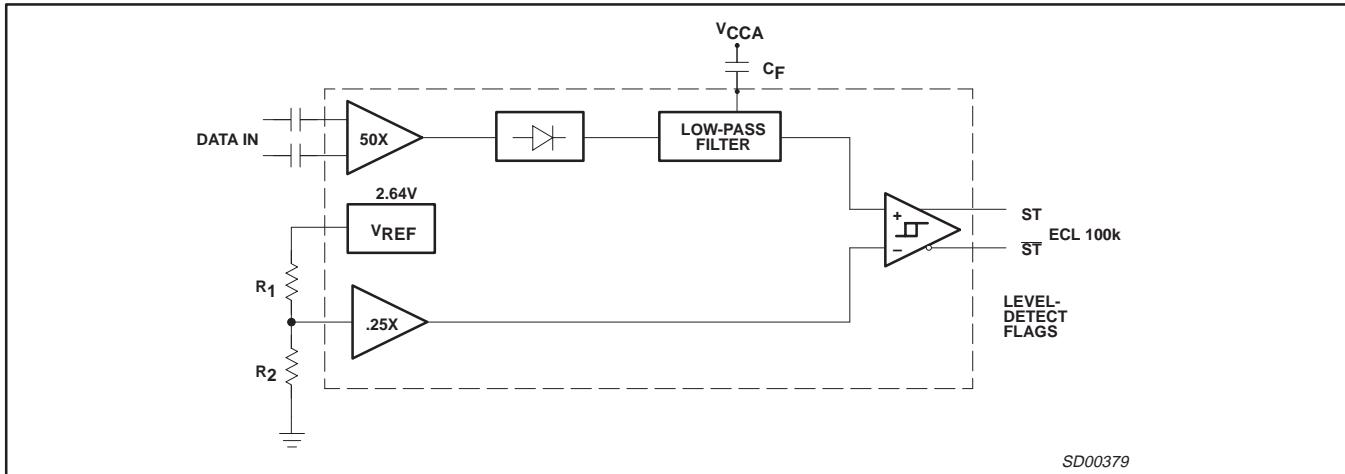

Figure 6. SA5224 Input Signal Level-Detect System
Figure 6 shows a simplified block diagram of the SA5224 level-detect system. The input signal is amplified and rectified before being compared to a programmable reference. A filter is included to prevent noise spikes from triggering the level-detector. This filter has a nominal 1 μ s time constant, and additional filtering can be achieved by using an external capacitor (CF) from Pin 7 to V_{CCA} (the internal driving impedance is nominally 24k). The resultant signal is then compared to a programmable level, V_{SET} , which is set by an internal voltage reference (2.64V) and an external resistor divider (R1 and R2). The value of $R1 + R2$ should be maintained at approximately 5k.